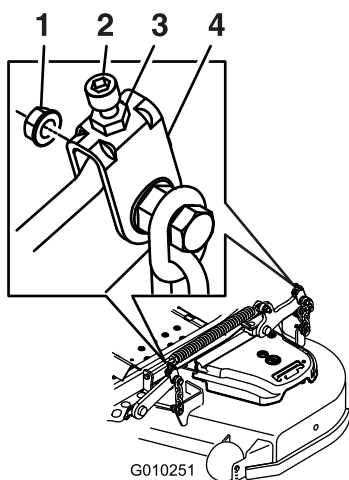

Figure 86
10. If needed, loosen the whizlock nut on the side of the yoke and the jam nut on top (Figure 86).
17. Fine-tune the screw adjuster by turning it to get 8.3 mm (3-1/4 inches) height (Figure 86).